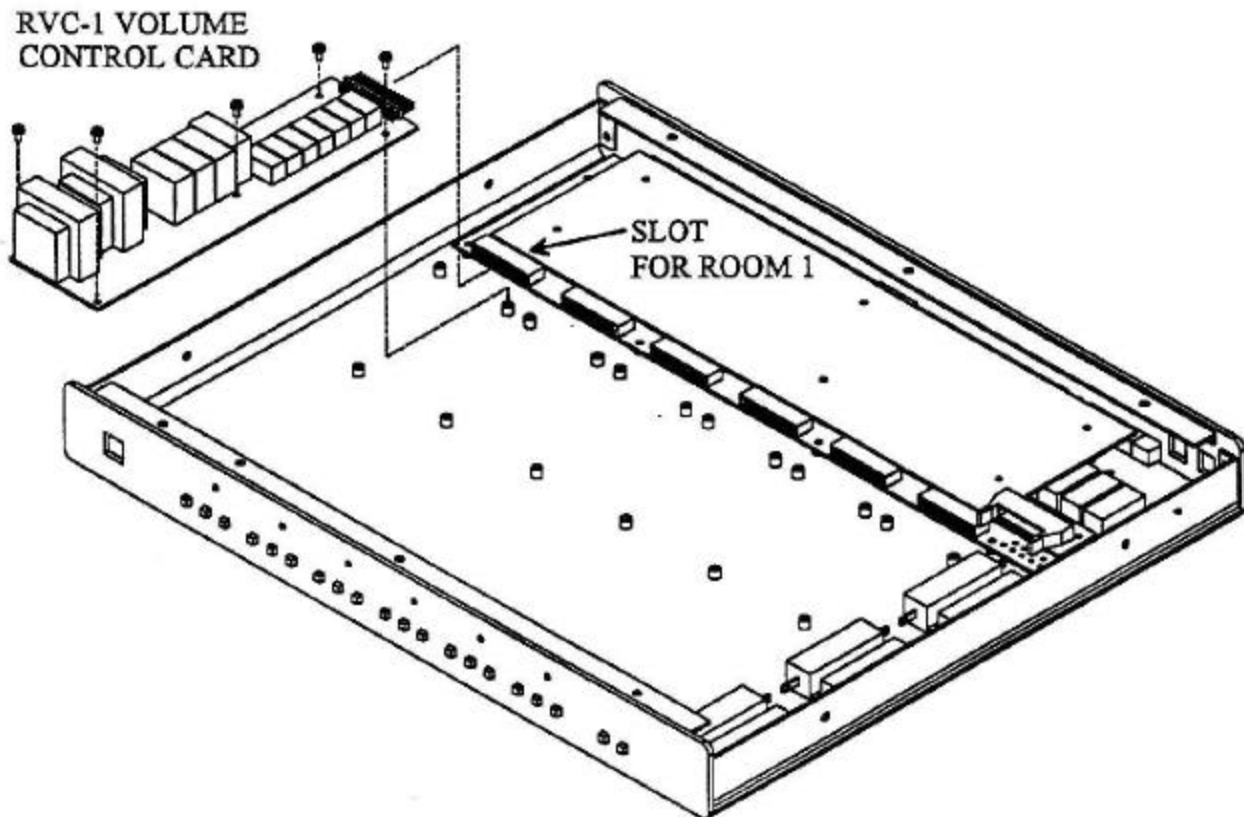

Figure 6
3. Install the RVC-1 and/or RSS-1 cards in the appropriate slots. Refer to figure 6 below.